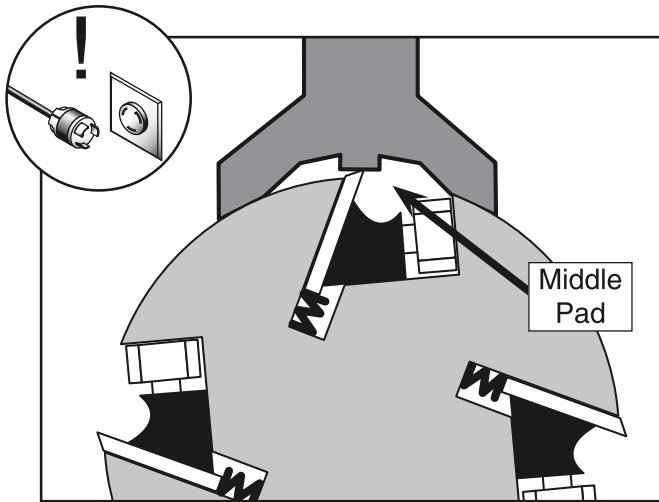

Figure 12. Gauge positioned over cutterhead knife.
1. Place the knife gauge on the cutterhead, directly over a knife, as shown in **Figure 12**.